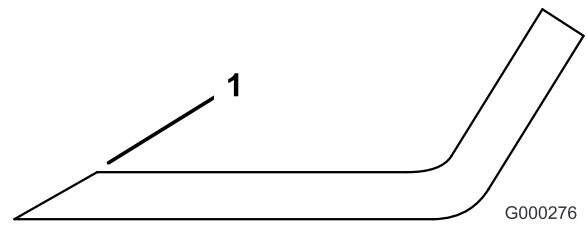

**Figure 89**
2. Examine the cutting ends of the blade carefully, especially where the flat and curved parts of the blade meet (Figure 89).
**Note:** Because sand and abrasive material can wear away the metal that connects the flat and curved parts of the blade, check the blade before using the mower. If wear is noticed (Figure 89), replace the blade.